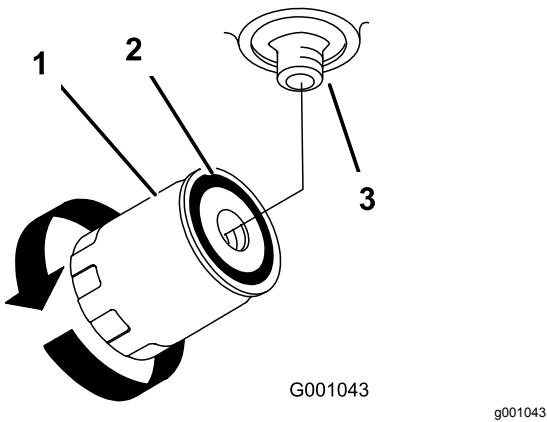

Figure 73
4. Remove the old filter and wipe the filter-adapter gasket surface clean (Figure 73).
7. Turn the filter clockwise until the rubber gasket contacts the filter adapter and tighten the filter an additional 1/2 turn (Figure 73).